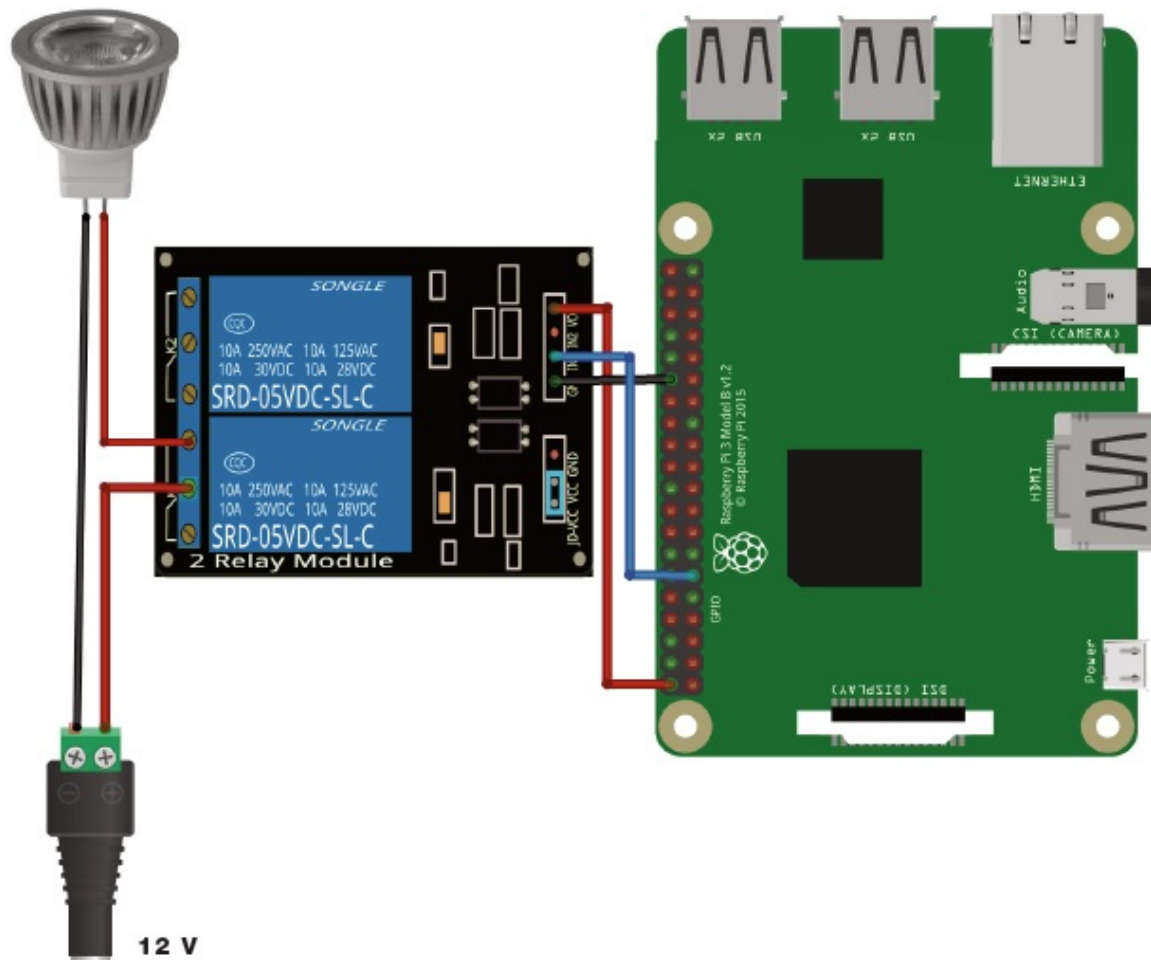

FIGURE 16-6: Controlling a 12 V lamp with the Raspberry Pi using a relay
4. Follow the table to wire the Raspberry Pi to the relay, and make sure your completed setup matches Figure 16-6.